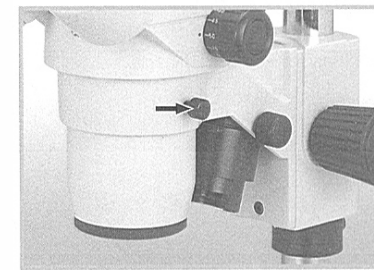

Fig.1
1. Turn the zoom knob (16) to the lowest magnification 0.75X.
2. Place a flat object or a microscope slide on the centre of the stage (11).
3. Turn focusing knobs (18) to mid-focus range.
4. The head holder (17) is mounted on a column (21), on which it can be moved up or down, depending on the size of the object to be focused on.
- a. Support the head holder (17) with one hand without touching any lens, and with the other, loosen the screw (20) on the support collar (19). The head holder can then be slid to the base (13).
- b. Without letting go of the head, loosen the head holder locking screw. (Fig.1)
The tension adjustment collar for focussing (Fig.1) is situated between the focussing knob (18) and the head holder (17).